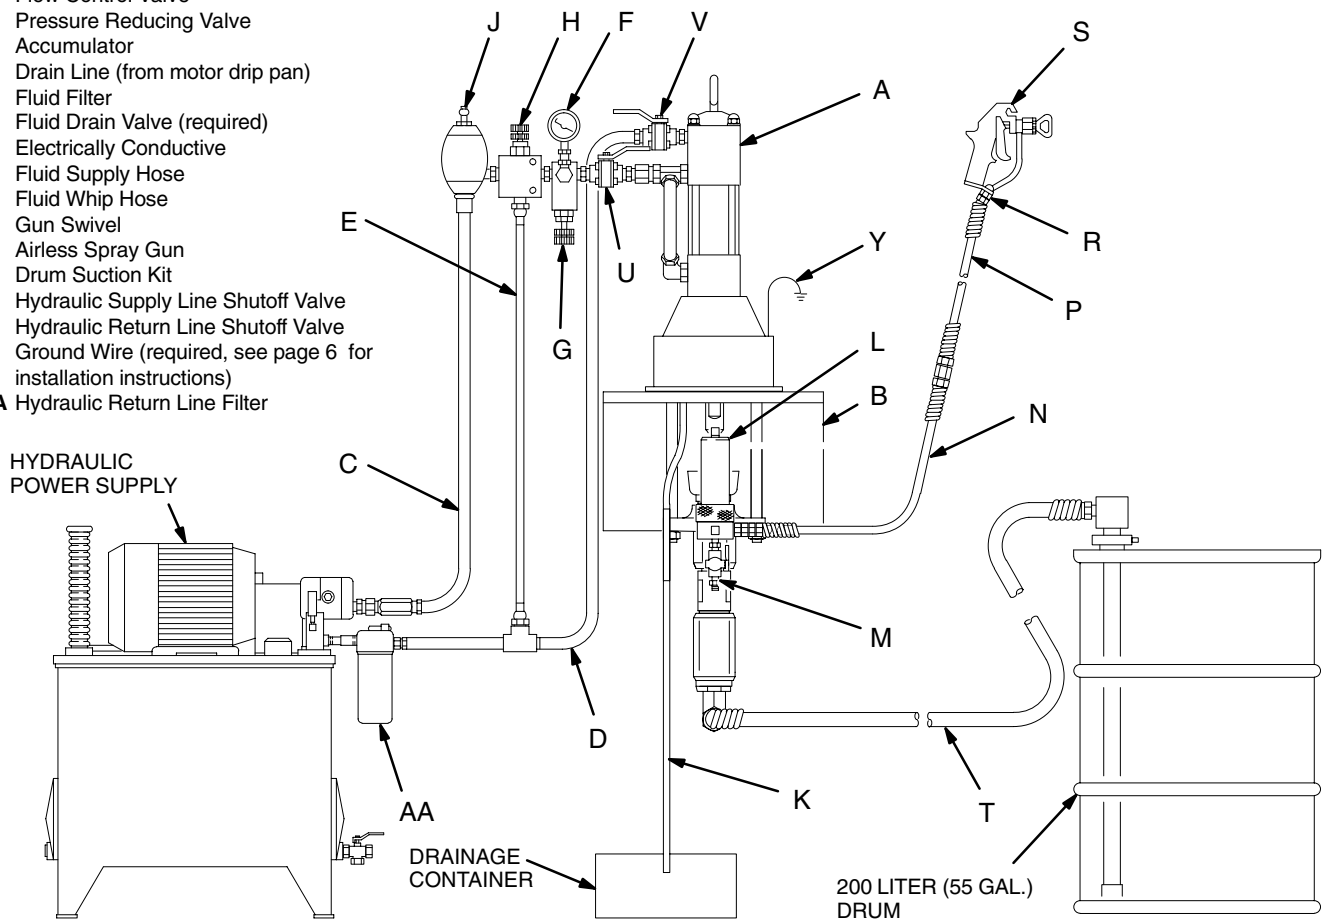

Fig. 4
Install the following accessories in the locations shown in Fig. 4, using adapters as necessary:
- **A fluid filter (L)** with a 60 mesh (250 micron) stainless steel element, to filter particles from the fluid as it leaves the pump.
- **A fluid drain valve (M)**, which is required in your system, helps relieve fluid pressure in the hose and gun (see the **WARNING** on page 7).
- **A gun (S)** dispenses the fluid. The gun shown in Fig. 4 is an airless spray gun for light to medium viscosity fluids.
- **A gun swivel (R)** allows freer gun movement.
- **A suction kit (T)** allows the pump to draw fluid from a supply container.
1. Refer to Fig. 4 on page 9. Connect the suction kit (T) to the pump's fluid inlet, and place the tube into the fluid supply.
3. Make certain that the supply line shutoff valve (U) and the return line shutoff valve (V) are closed.
5. Hold a metal part of the gun (S) firmly to the side of a grounded metal pail and hold the trigger open.
6. Open the return line shutoff valve (V) *first*, then slowly open the supply line shutoff valve (U).
9. If the pump fails to prime properly, open the drain valve (M). Use the drain valve as a priming valve until the fluid flows from the valve. Close the valve.
11. Use the fluid pressure gauge (F) and flow control valve (G) to control the pump speed and the fluid outlet pressure. Always use the lowest hydraulic flow and pressure necessary to get the desired results. Higher pressures cause premature tip/nozzle and pump wear.